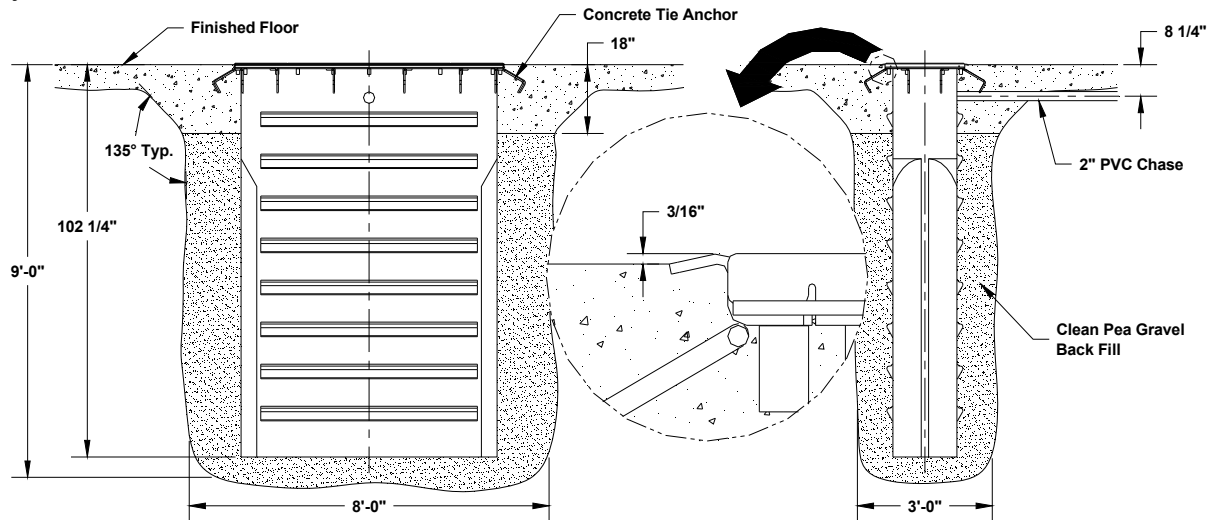

Fig. 2
New construction requires an excavation as shown in Fig. 2. **NOTE:** Concrete must be finished to edge of concrete tie (3/16" below top of concrete ties, see Fig. 2 below). All depths are measured from the finished floor level. Failure to comply will void the warranty. The power unit may be installed on the nearest wall or floor pedestal. The power unit should be located out of the working area around the lift and vehicle, but close enough to allow good visibility while operating the lift. Hydraulic and air lines from the lift should be recessed under the slab in a 2" sch. 40 PVC chase. CLI will supply the proper coupling to join the PVC chase to the lift.
9. Pour concrete floor taking care not to run concrete in or on top of the lift / containment assembly. **NOTE:** Concrete must be finished to edge of concrete tie (3/16" below top of concrete ties, see **Fig. 2**). The floor should slope away from the lift for drainage. The floor slope should not exceed 1/16" per foot. 3500 psi concrete, steel reinforced per local commercial practice is required. The new concrete must be mechanically joined to the existing floor with rebar.